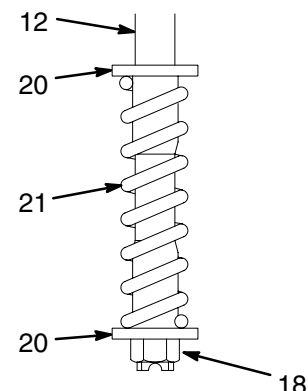

Fig. 8
8. Visually inspect the spring (21). If there is wear or damage, remove the nut (18), spring (21) and retainers (20) from the trip rod (12). Reassemble with a retainer (20) on each end of the new spring (21). You must thread the nut onto the rod until it runs out of thread, so that it bottoms out on the shoulder of the rod. See Fig. 8.